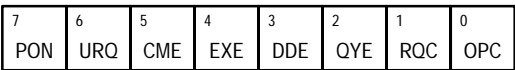

Figure 3-4: The Standard Event Status Register (SESR)
The Standard Event Status Register (SESR) and the Status Byte Register (SBR) record certain types of events that may occur while the VXOA41 is in use. These registers are defined by IEEE Std 488.2. Refer also to Figure 3-4 and Table 3-10.
**The Standard Event Status Register (SESR).** The SESR, shown in Figure 3-4, records eight types of events that can occur within the VXOA41. Use the \*ESR? query to read the SESR register. Reading the register clears the bits of the register so that the register can accumulate information about new events.